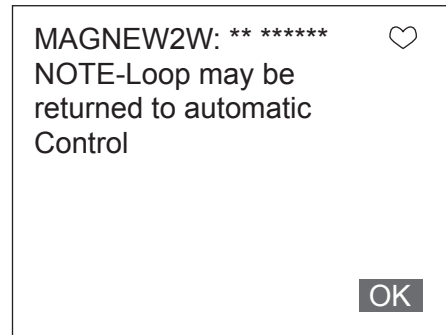

Figure 7-70
3. Note of caution will appear as shown in Figure 7-70. To proceed, press F4(OK).